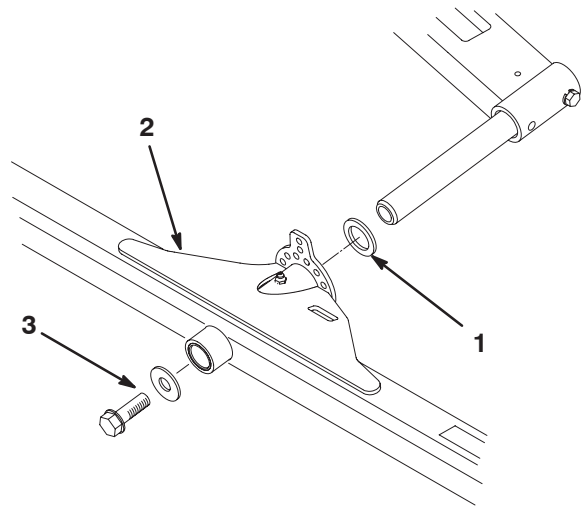

Figure 8
1. Slide a thrust washer onto the lift arm pivot rod (Fig. 8).
2. Slide the cutting unit carrier frame onto the pivot rod and secure it with a flat washer and flange head capscrew (Fig. 8).